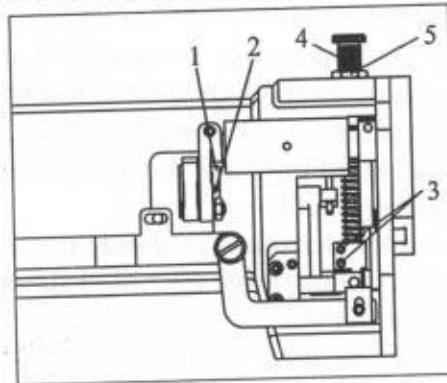

Fig 15
- The height of outer presser foot can be adjusted after loosen the screws 3 on clamp device. (Fig 15)
- If the height of inner presser foot is not suitable for the outer presser foot, the transport will be erratic. To adjust the height of inner presser foot: Insure the presser foot is in the lowest position, loosen the screws 3 (Fig 15) when the inner presser foot is clamped by hand, then adjust the height of inner presser foot.
To adjust the pressure of the presser foot, proceed as follows (Fig 15)